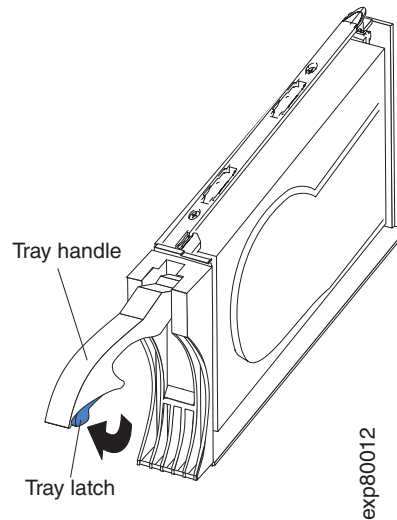

Figure 57. E-DDM CRU handle
- b. Pull the handle on the tray out so that it is in the open position, as shown in Figure 57.
- a. Release the latch on the E-DDM CRU by pressing on the inside of the bottom of the tray handle, as shown by the arrow in Figure 57 on page 103.